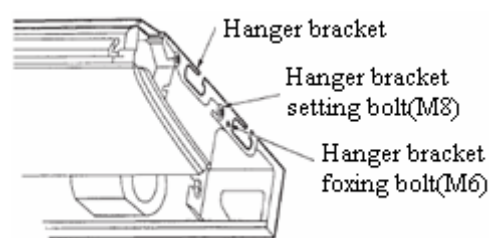

Figure 1-2-2
- ◆ Fix the hanger bracket to the suspension bolt (Refer to Figure 1-2-2).
- ◆ Screw tightly both hanger bracket setting bolts (M8) (Refer to Figure 1-2-2)
- ◆ Screw tightly both hanger bracket fixing bolts (M6) to prevent the movement of the indoor unit. (Refer to Figure 1-2-2)